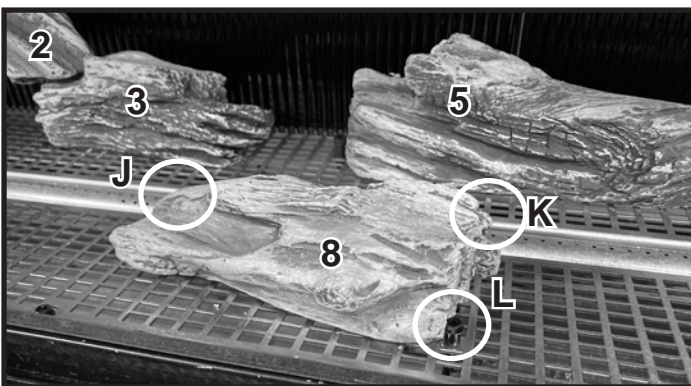

Figure 5 Install Log #8
**Log #8:** Log #8 uses three log pins, J, K and L. Place Log #8 as shown in Figure 5.